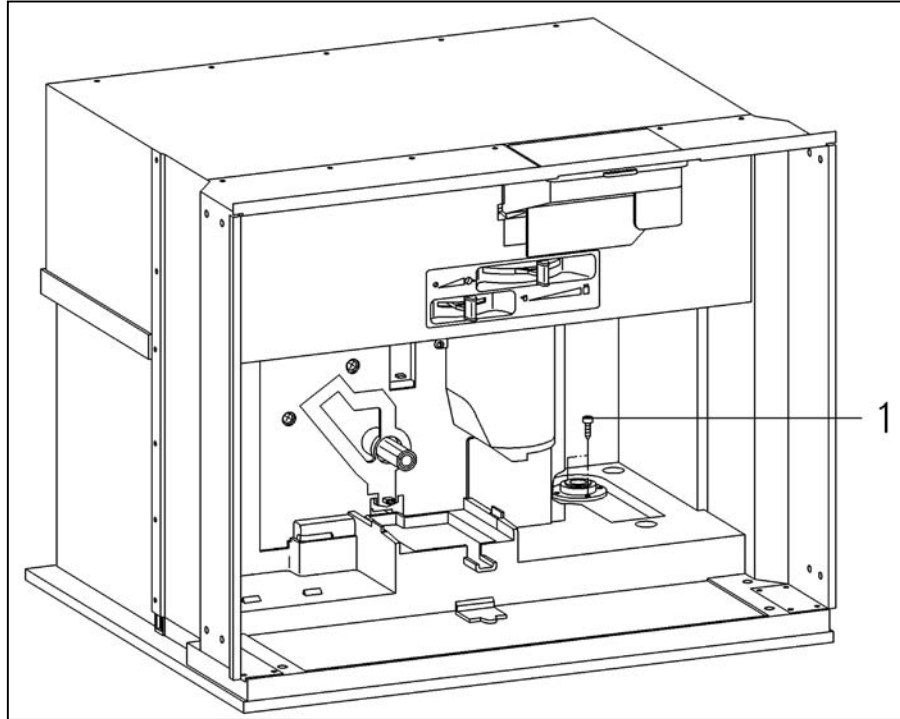

Figure 5-40: Water tank lip seal removal.
4. Remove the lower part of the Valve Fixing Screws (Figure 5-40, Item 1).